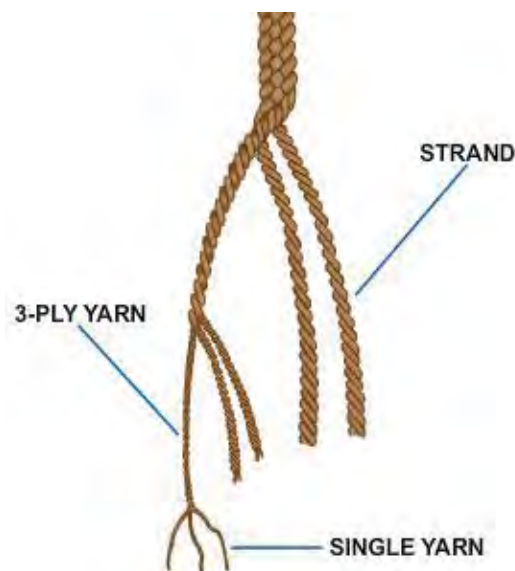

Figure 22-35 — Synthetic fiber plain laid rope.
Plain laid ropes are normally constructed of three strands twisted in an alternate pattern. Natural fiber ropes have a ZSZ twist pattern; the yarn has a right (Z) twist, the strand has a left (S) twist, and the rope has a right (Z) turn. Synthetic fiber ropes have a plied yarn construction with an SZSZ pattern; the single yarns have a left (S) twist, the ply a right (Z) twist, the strand a left (S) twist, and the rope a right (Z) lay. (See *Figure 22-35*). Four strand aramid fiber rope is constructed of parallel yarns in each strand, left laid helically around a strand core. The four parallel laid strands are twisted together in the opposite direction around a center core.